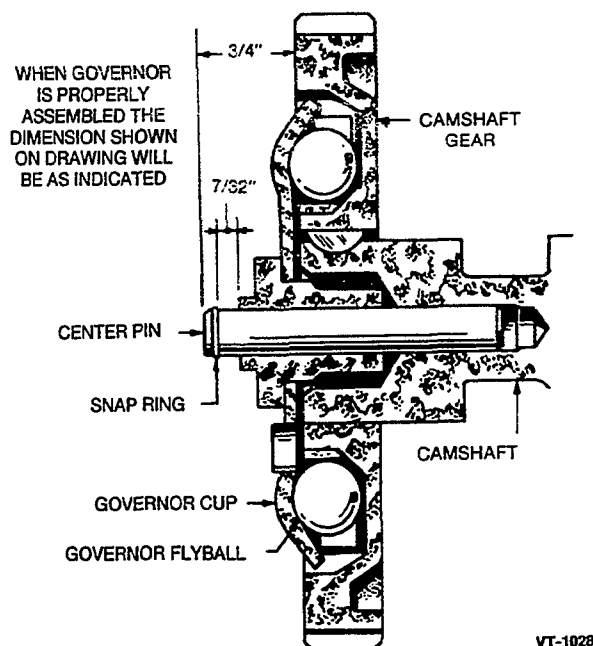

FIGURE 9-14. GOVERNOR CUP
2. Remove the snap ring from the camshaft center pin (see Figure 9-14).
1. The camshaft center pin extends 3/4 inch (19 mm) from the end of the camshaft. This distance provides 7/32 inch (5.6 mm) travel for the governor cup, as illustrated in Figure 9-14. Measure this distance while holding the cup against the flyballs. If the distance is less, the engine may race, especially at no load.